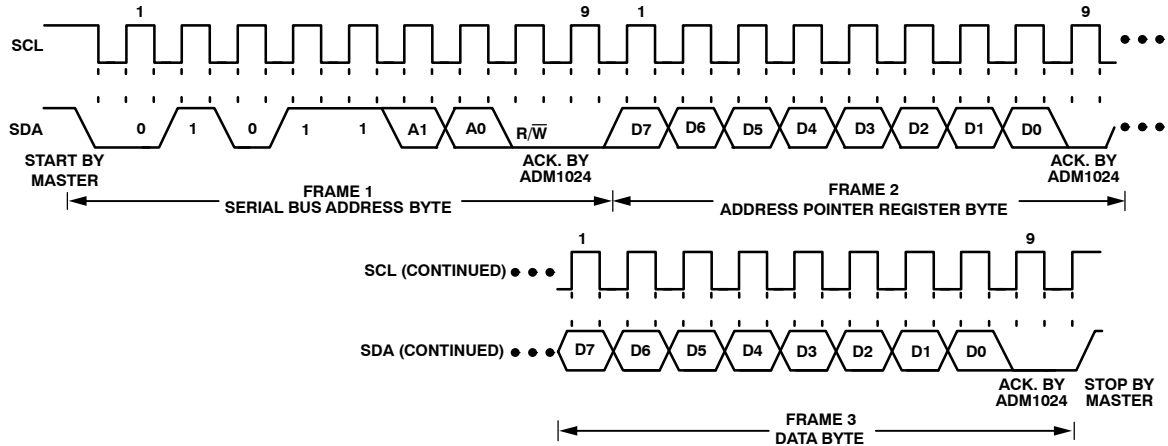
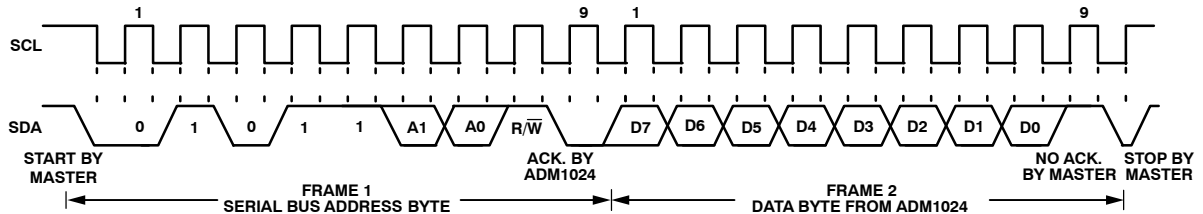

Figure 10. Writing a Register Address to the Address Pointer Register, then Writing Data to the Selected Register
Figure 12. Reading Data from a Previously Selected Register
To write data to one of the device data registers or read data from it, the Address Pointer Register must be set so that the correct data register is addressed, then data can be written into that register or read from it. The first byte of a write operation always contains an address that is stored in the Address Pointer Register. If data is to be written to the device, the write operation contains a second data byte that is written to the register selected by the Address Pointer Register. This is illustrated in Figure 10 The device address is sent over the bus followed by R/\overline{W} set to 0. This is followed by two data bytes. The first data byte is the address of the internal data register to be written to, which is stored in the Address Pointer Register. The second data byte is the data to be written to the internal data register.
A read operation is then performed consisting of the serial bus address, R/W bit set to 1, followed by the data byte read from the data register. This is shown in Figure 12.
2. In Figure 10 to Figure 12, the serial bus address is shown as the default value 01011(A1)(A0), where A1 and A0 are set by the three-state ADD pin.